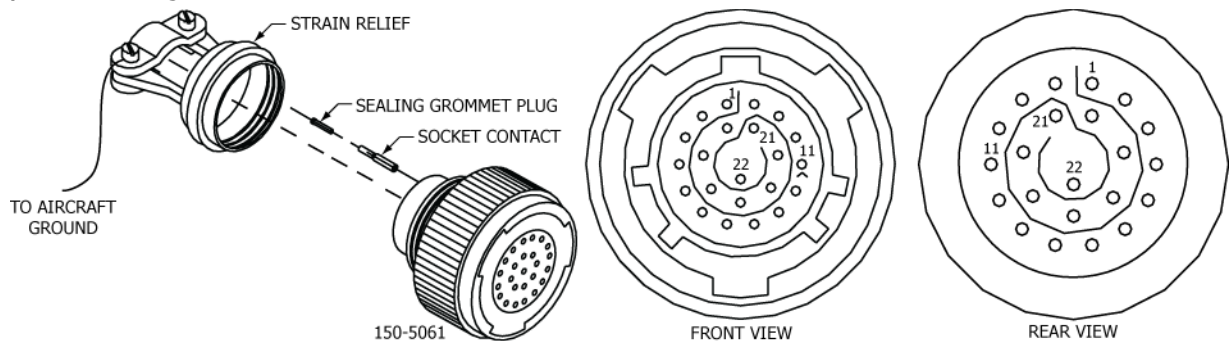

Figure 18 Harness ELT 22-Pin Plug Arrangement
- 1) Refer to Figure 18 below.